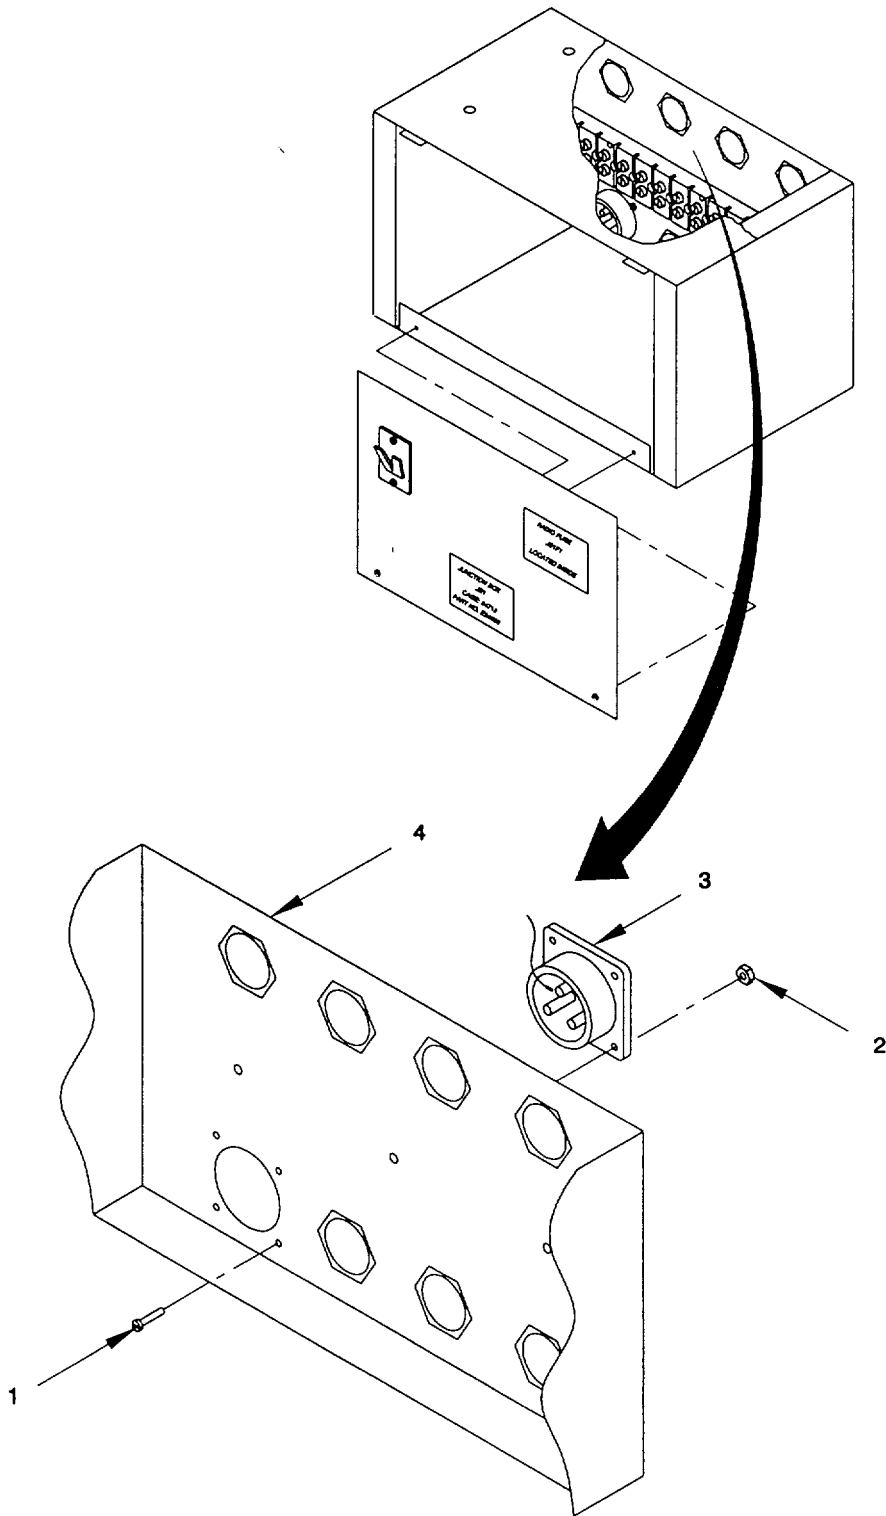

Figure 2-151. Receptacle, Cab Junction Box "JB1", Remove/Install.
- a. *Remove.* (figure 2-151)
- (1) Loosen two screws securing front door. Open door.
- (2) Tag and disconnect electrical wiring to receptacle (3). Refer to Appendix G.
- (3) Remove four pan head capscrews (1) and four hex nuts (2) securing receptacle (3) to junction box (4). Remove receptacle (3).
- b. *Install.* (figure 2-151)
- (1) Apply antiseize compound to threads on pan head capscrews (1).
- (2) Position receptacle (3) on junction box (4). Secure with four pan head capscrews (1) and four hex nuts (2).
- (3) Reconnect electrical wiring, as tagged, to receptacle (3). Refer to Appendix G.
- (4) Close door and secure with two attached screws.